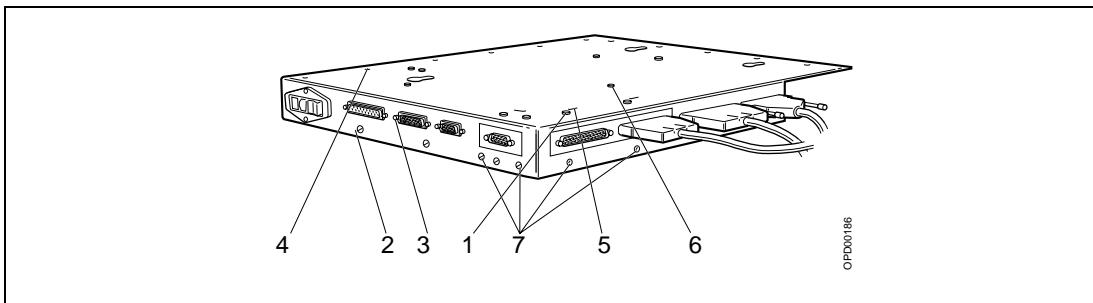

Fig. 6 Removal of cover
1. Remove the 13 screws (4/Fig. 6) on the back side of the biopsy controller.
2. Remove the seven countersunk screws (2/Fig. 6) on the sides of the biopsy controller.
1. Remove the screws (3/Fig. 6) holding the connectors X201, X202, X206, X207, X208.
2. Loosen the four screws (1/Fig. 6) on the back side of the biopsy controller.
3. Loosen the four screws (7/Fig. 6) on the side of the biopsy controller.
4. Remove the screws (6/Fig. 6) holding the board.
When installing the board, pry the board holders carefully in position by using a screwdriver at the slots (5/Fig. 6) on the back side of the biopsy controller.